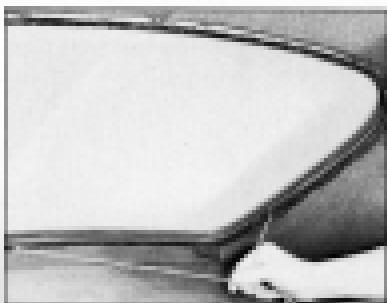

Fig. 95. Rolling Inner Lip of Rubber Channel Over Pinch Weld
3. Apply moderate hand pressure against the glass from inside the body and carefully force the glass and its channel to release from the pinch-welds (Fig. 95).